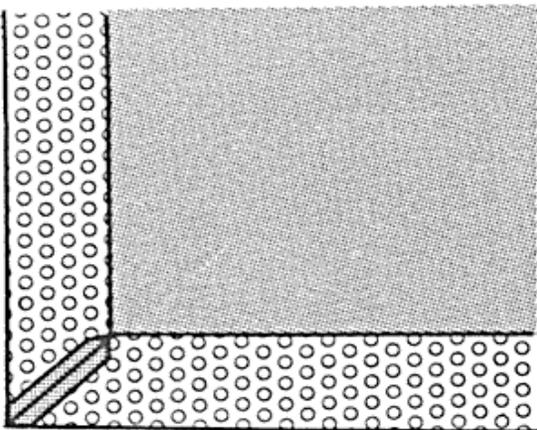

Figure 8.
5. Trim the seam to 1/4 inch. Press the seam open over a point presser (*Figure 8*). Turn and press again, slipping an envelope between the layers of fabric to eliminate any seam impressions.